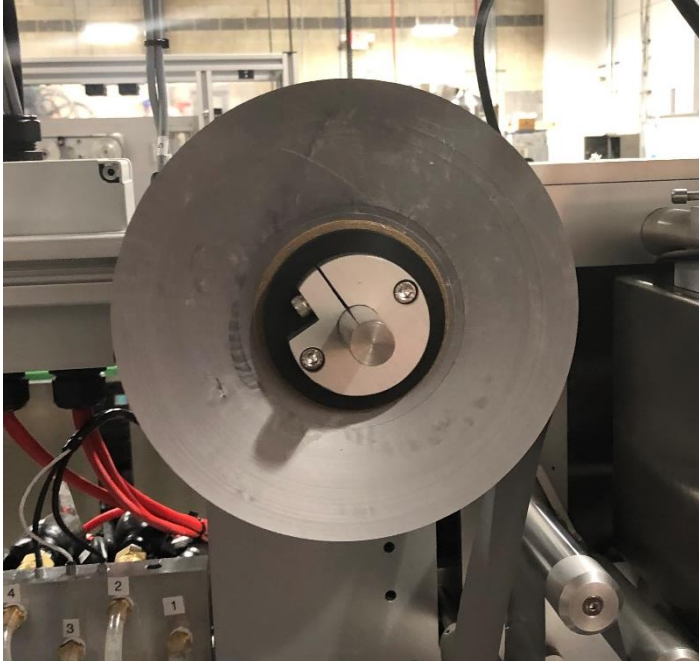

Figure 9
- Place film onto unwind film holder. (*Figure 9*)